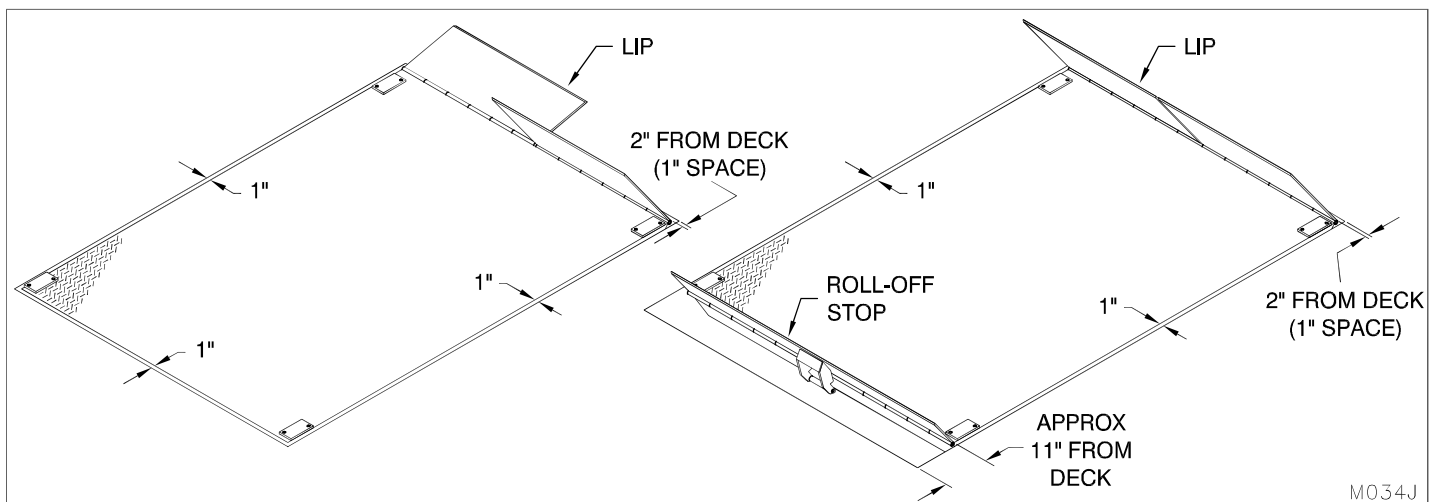

Figure 5: Square the Dock Lift in the Pit
11. Square the dock lift platform in the pit, leaving approximately 1" space all around the pit edge. **NOTE:** If the unit is equipped with a roll-off stop, the platform must be squared evenly on the two sides and offset by 11" on the fixed end (See "Figure 5: Square the Dock Lift in the Pit" on page 12).